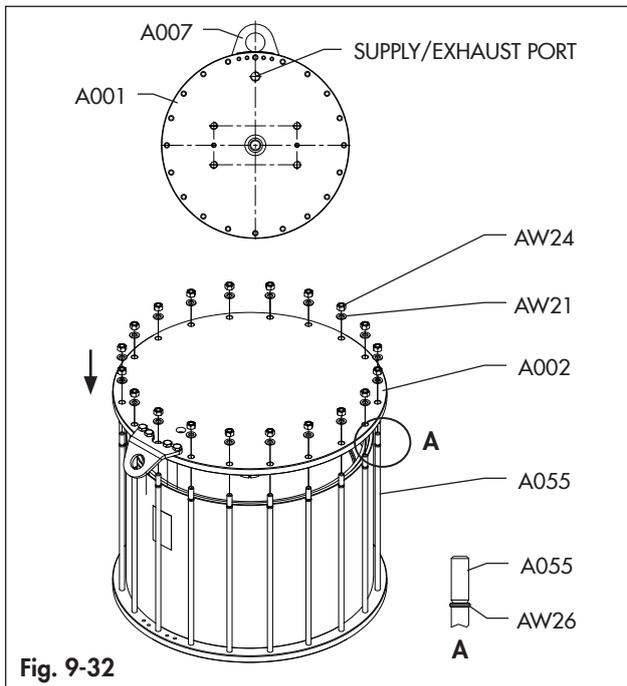

Fig. 9-32
- Place the flange (A002) making sure to correctly align the holes for the tie rods (A055) orienting the lifting bracket (A007) referring to the flange (A001) as per Fig. 9-32. Make sure not to damage the tie rod o-rings (AW26) while engaging the flange (A002) into the tie rods (A055).